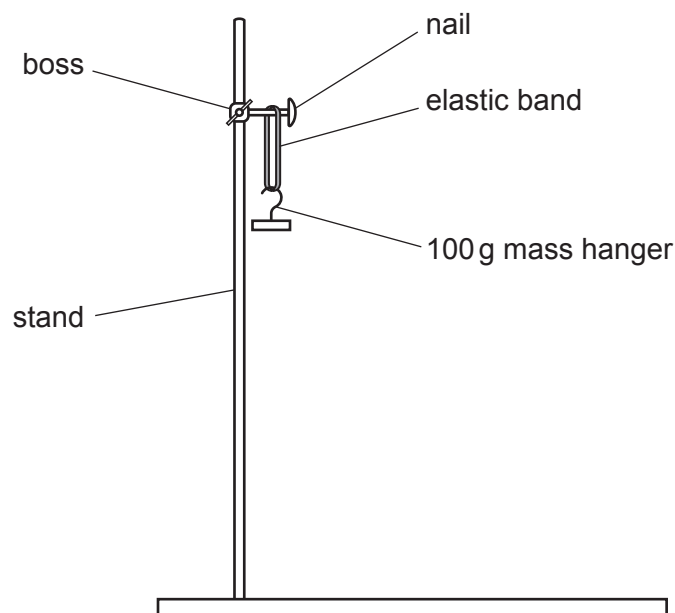

Fig. 4.2
- Attach the mass hanger to the elastic band as shown in Fig. 4.2.